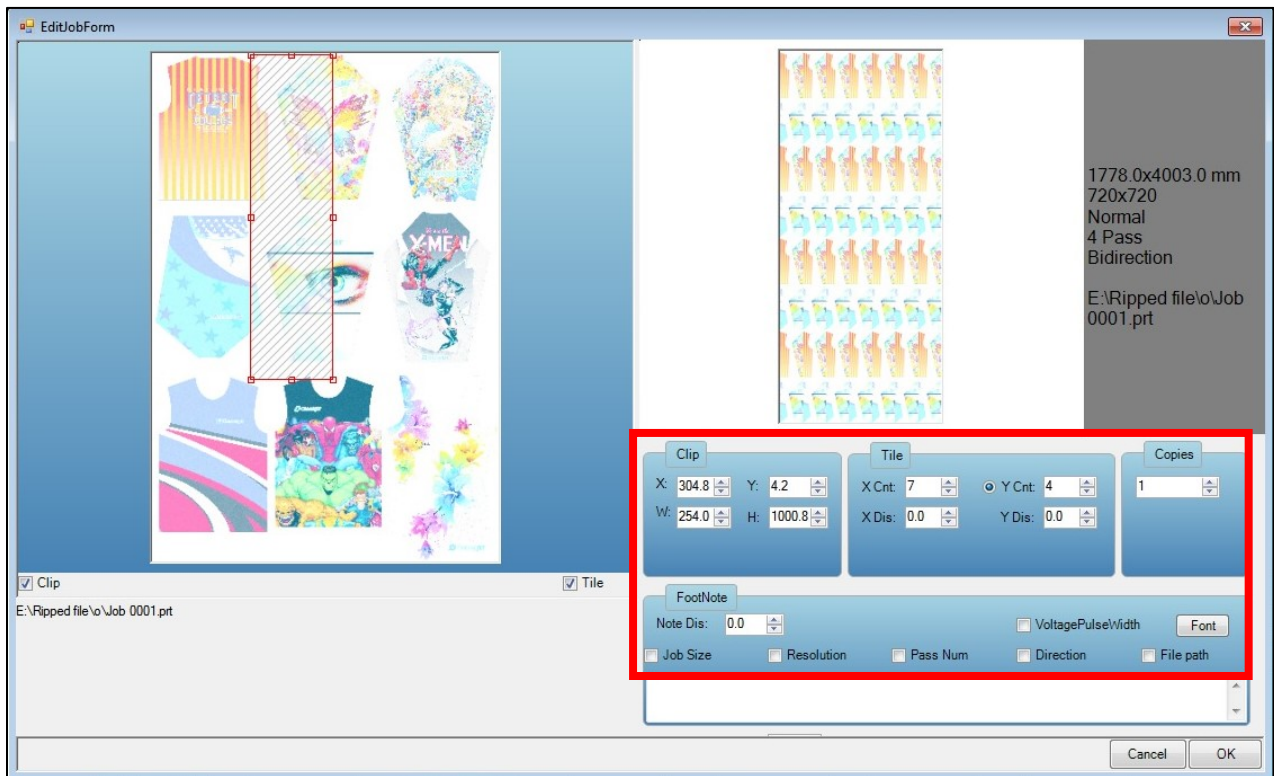

Fig 41: Displaying the Edit Job Form Window
Step 5: After making the desired changes, click on the **OK** button to apply the settings (Refer to Fig 41).